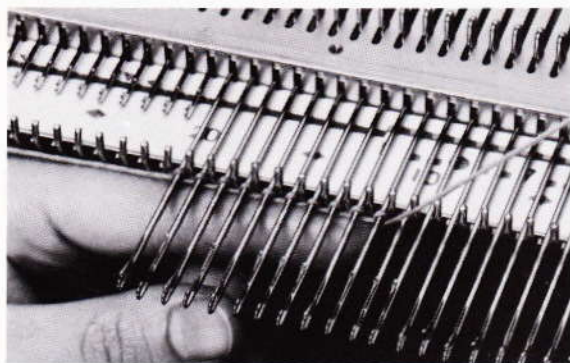

Fig. 53
- With the left hand push back the loops thus formed against the teeth of the needle bed (fig. 53).